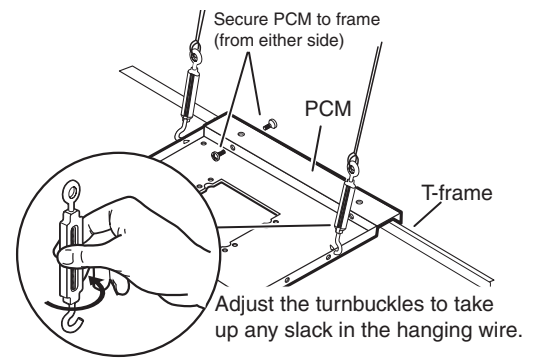

Figure 6. Adjust Turnbuckles.
- g. Loop the safety cable through the center anchor or lag eye bolt, attach it to the plate center holes (figure 6) and secure it with the cable clamps.
- i. Tighten the turnbuckles by hand (see figure 6), and level the plate so that it just rests on the grid.